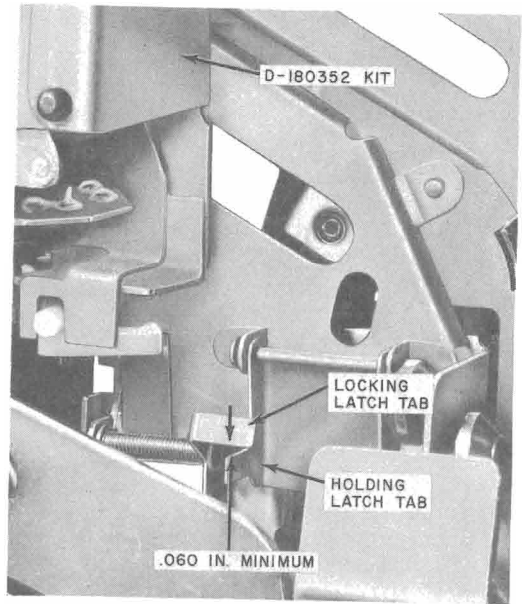

Fig. 7—Clearance Between Locking Latch Tab and Holding Latch Tab
- (2) With the coin chute mounted in the normal position and the armature fully operated, the locking latch tab shall clear the holding latch tab by .060 minimum (Fig. 7).